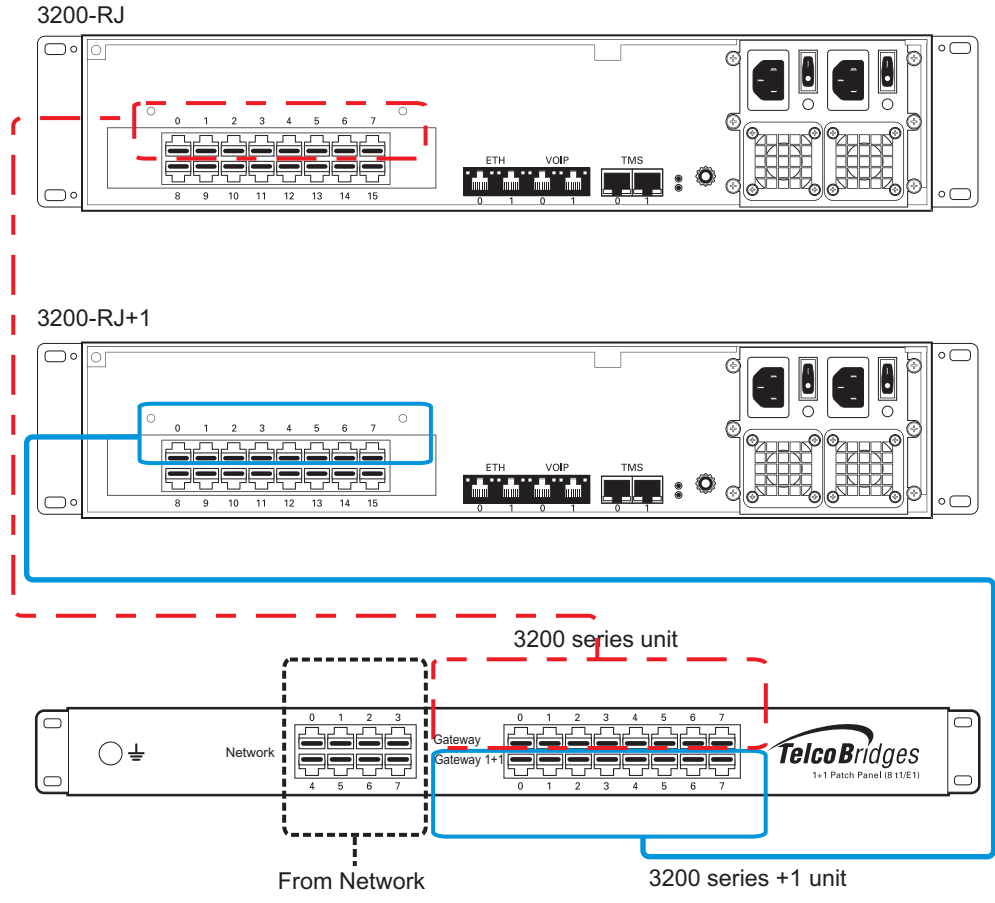

Figure 2.14 3200-RJ and 3200-RJ+1 connecting to the TDM 1+1 8/T1/E1 1+1 patch panel
1. Connect T1/E1 lines 0-7 from the network section of the 1+1 patch panel to the remote equipment. See figure 2.14 on page 36.